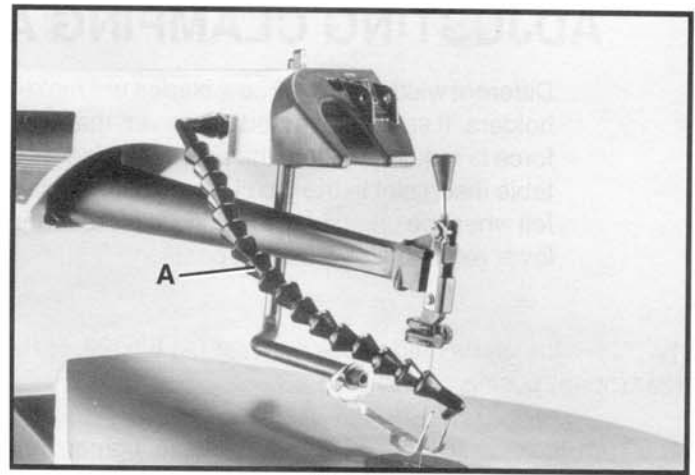
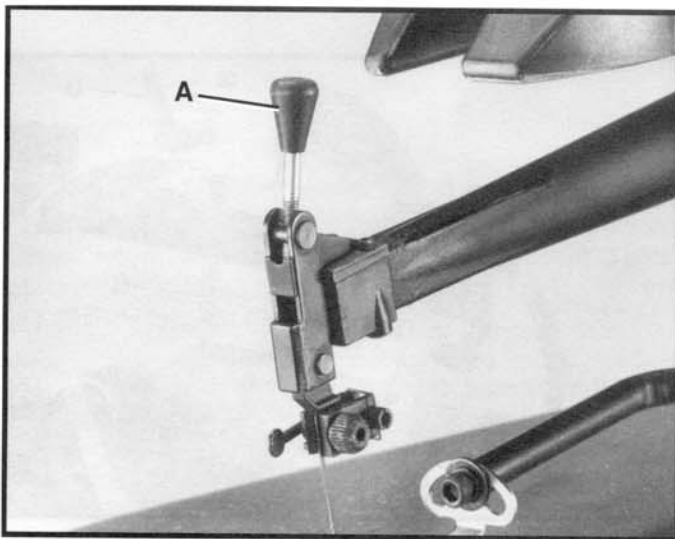
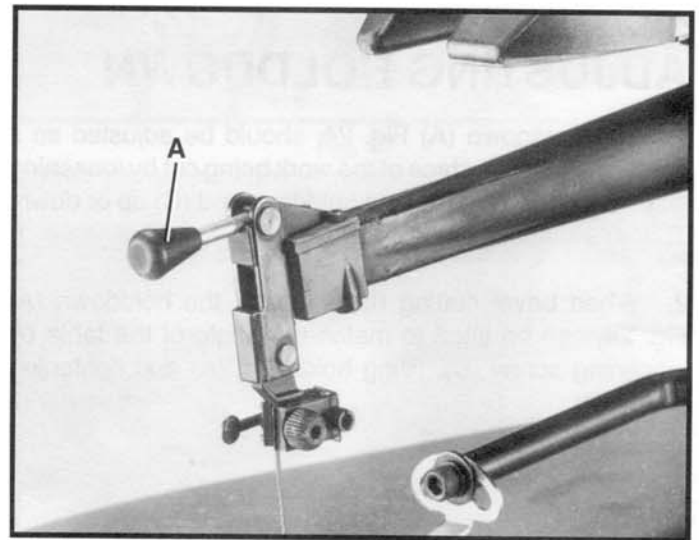

Fig. 20
Fig. 21
Fig. 22
A dust blower (A) Fig. 20, is provided, and can be moved to direct air to the most effective point on the cutting line.
Tension is applied to the blade when the blade tension lever (A) Fig. 21, is in the up position, as shown. When the lever (A) is moved forward, as shown in Fig. 22, blade tension is released.
To increase blade tension, turn tension lever (A) Fig. 21, clockwise, and to decrease blade tension, turn tension lever (A) counterclockwise. **When adjusting blade tension, tension lever (A) Fig. 20, should be in the full forward position as shown. It is only necessary to adjust blade tension knob (A) when a different type of blade is assembled to the blade holders.** It is not necessary to adjust blade tension when the blade is removed from, and replaced in only the upper blade holder as in performing inside cutting operations. Adjusting the blade for proper tension is usually accomplished by trial and error; however, a good method to use is to pluck the rear of the blade like a guitar string, after the tension lever (A) Fig. 22, is moved to the rear. A high-pitched tone of the blade should be heard and this usually indicates proper tension. Thicker blades require more tensioning (a higher pitched sound) while finer blades require less tension.